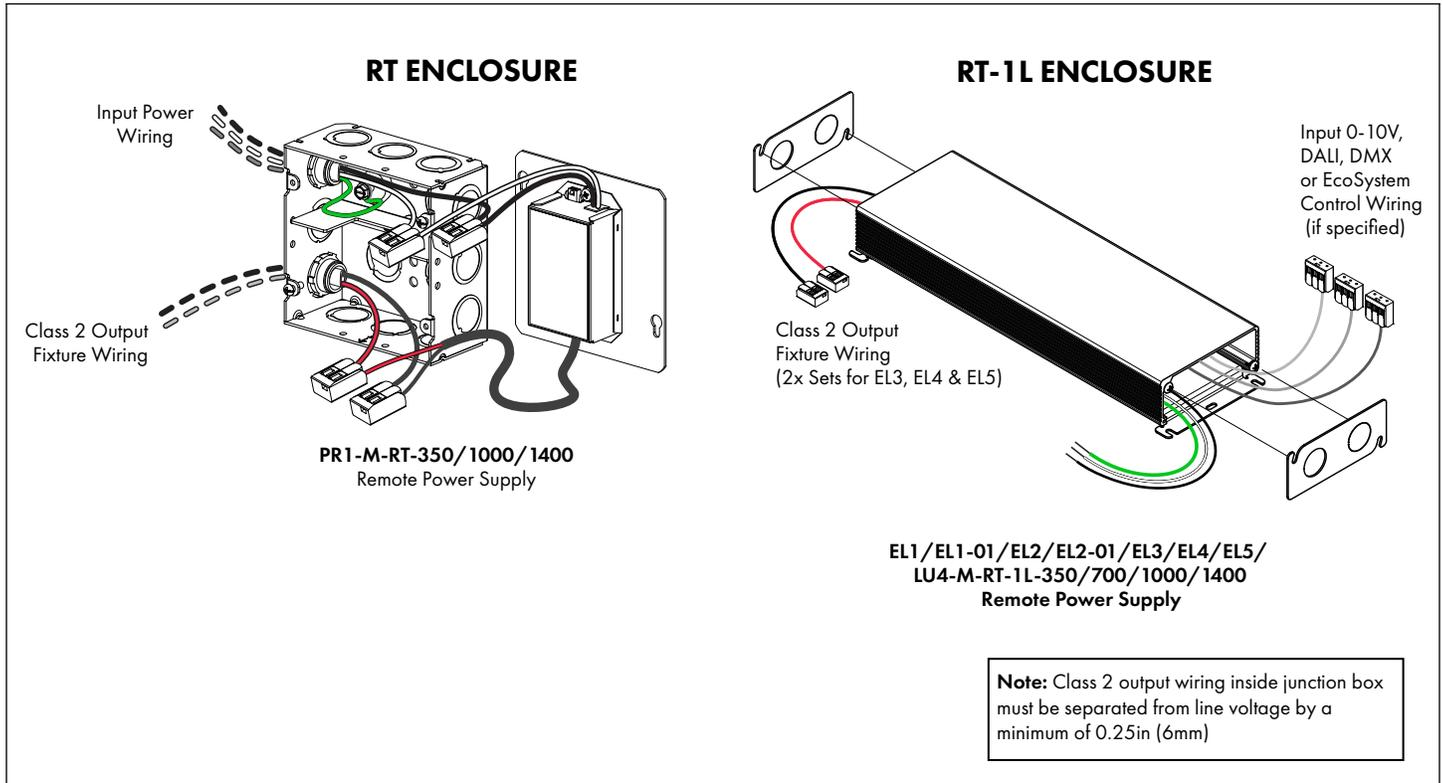

FIG 4.1 Wire & Install Remote Power Supply
STEP 1 Verify correct power supply model (see label on cover plate), LED type (see label on fixture), wire length and gauge (see chart below) and input requirements (see label on driver) - **FIG 4.1 & 4.2**.
STEP 2 Install & wire remote power supply (RT & RT-1L) - **FIG 4.1** & Wiring Diagrams on **Pages 5-8**.
STEP 3 Connect fixture supply wires to Class 2 wiring - **FIG 4.1**.
STEP 4 Push fixture supply connections completely behind Cover or End Caps - **FIG 4.1**